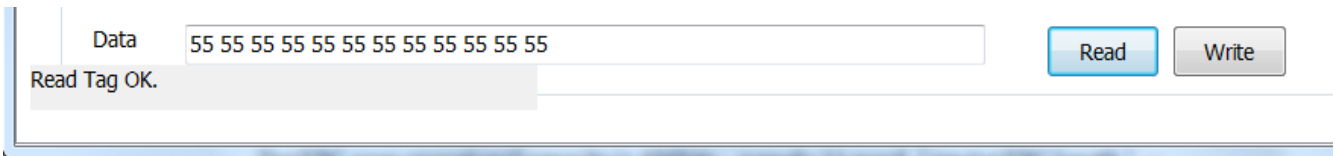

Figure 2.10
**Read the card operation:** Set to access the Bank, Begin, Length and other related parameters, UHF tag set after the completion of the will to operate on the issuing of the antenna. Should area, click the “read” reading an and writing card interface button to read the tag information reads the tag after the success of the information, the corresponding tag information. Displayed in the “data” in the edit box and are displayed in the lower left corner “Read the Tag OK”; As shown in figure 2.10: